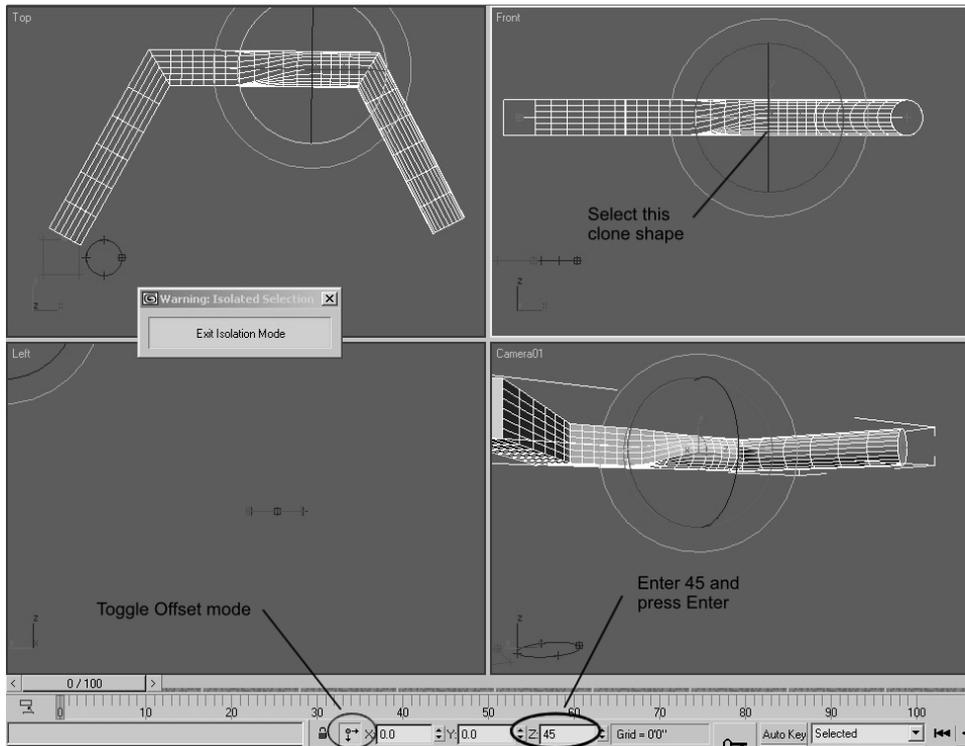

FIGURE 9.27 Toggle Offset Transform Type-In mode and enter 45 in the Z-axis rotation. Press Enter. The twist is removed at that point.
9. On the main toolbar, click the Select and Rotate button. Notice that the reference coordinate system is locked on Local for each shape. In the status bar at the bottom of the display, toggle to Offset Transform Type-In mode. In the Transform Type-In Z-axis field at the bottom center of the display, enter 45 and press Enter (see Figure 9.27). The twist is removed at that point.